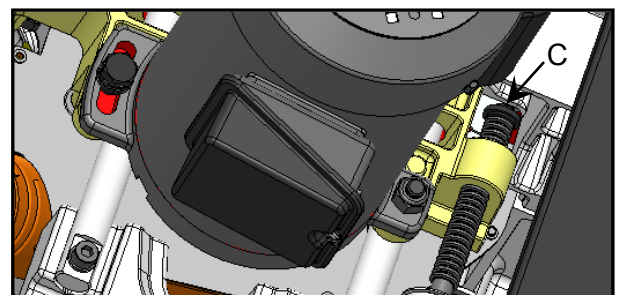

Fig. 23
2. Clean then lubricate screw C. Fig. 23